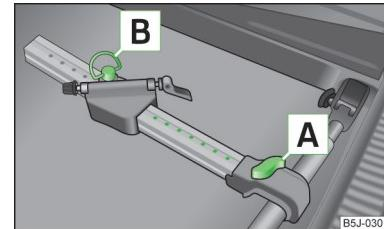

Fig. 74
- Remove bolt [A] » Fig. 74 a little and push the frame side rail (aluminium part) towards the cross member until the socket latches.
- Undo bolt [A] » Fig. 74 on page 76 and push the bicycle carrier to the left together with the mounted bicycle to prevent a collision between the handlebars and the side window of the luggage compartment.